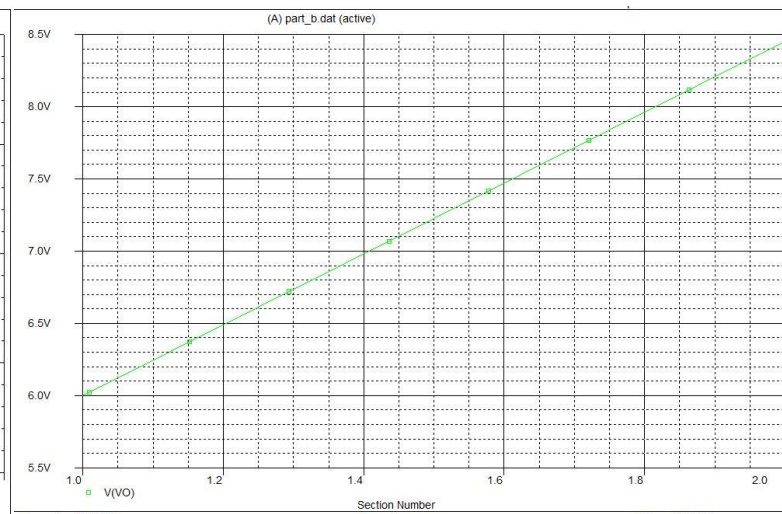

Figure 13: The range of V_o from part b2
- for part b2, we expect that V_o varies as the resistors have some tolerance values, when we define tolerance 25% for each resistor, the range of the output voltage is given by Figure 13, and in the worst case it has 140% nominal value at $V_{in}=1.2V$,